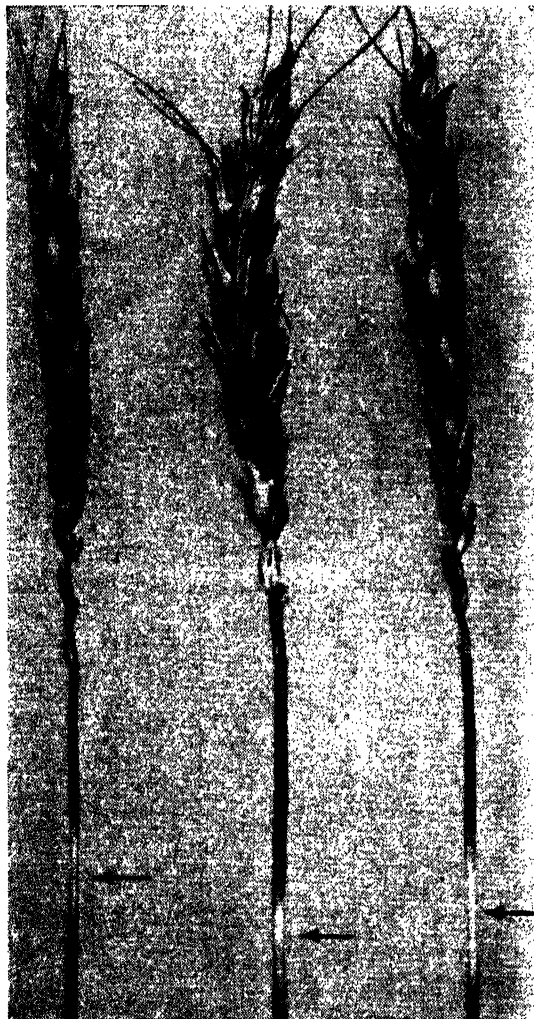

Fig. 3.—Ringbarking of Stems by Frosts.
ring, encircling the stem at a variable distance below the head, but above the point where the ear-bearing stalk emerges from the uppermost leaf sheath (see Fig. 3). An unusual bareness at the base of the ear frequently accompanies “ring barking.”
3. A failure of the lower spikelets to develop, resulting in an unusual bareness at the base of the ear (see Fig. 3). However, this type of injury may also be indicative of drought conditions.